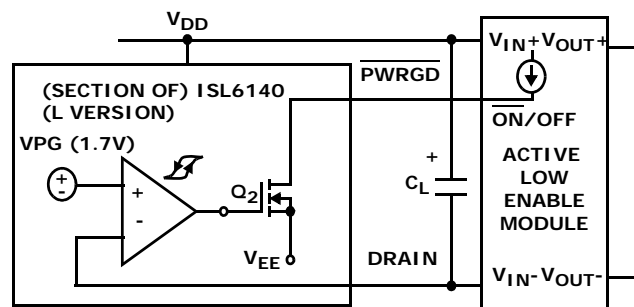

FIGURE 6. ACTIVE LOW ENABLE MODULE
**ISL6140 (L version; Figure 6):** Under normal conditions ( $\text{DRAIN} < \text{VPG}$ ), the Q2 DMOS will turn on, pulling  $\overline{\text{PWRGD}}$  low, enabling the module.